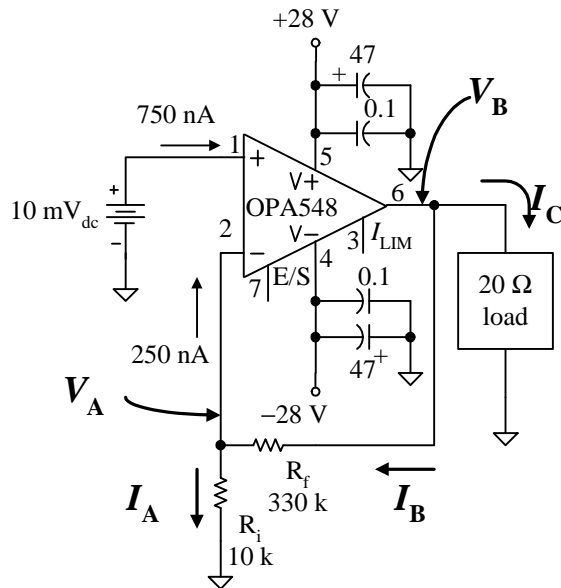

Figure 4-26 Schematic for Problem 4-3
- 4-3 The nonideal input offset voltage, bias currents, and offset currents are shown in Figure 4-26. Calculate the indicated voltages and currents. Hint: do the calculations in the indicated order.
- 4-4 For the circuit in Figure 4-26, if the 10 mV_{dc} offset voltage source is replaced with a 500 mV_{rms} sinusoid,